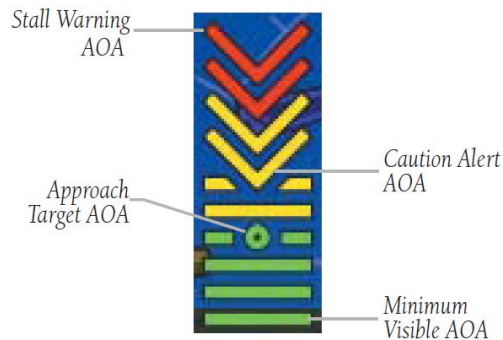
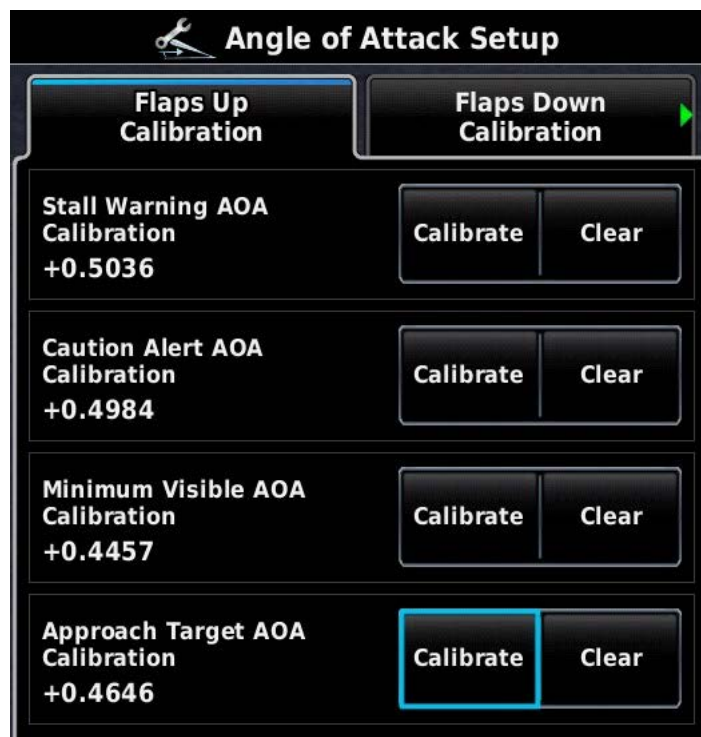

Figure 30-7 Angle of Attack (AOA) Display
Figure 30-9 Angle of Attack Setup Page
Installations that include a GAP 26 and which have AOA enabled require that an AOA calibration be performed to enable AOA functionality. The AOA calibration is used to find the four AOA settings shown in Figure 30-7. These calibrations must be done while in flight. The AOA Setup page (Figure 30-9) on PFD 1 is used for the AOA cal procedure, and is accessed in normal mode (requires that an AOA input is enabled on the LRU Configuration page, see Section 30.4.6, and Advanced User Setup is enabled on the System Options Page, see Section 30.4.4).
- The stall warning AOA calibration value (resultant from the calibration procedure) must be greater than the minimum visible AOA calibration value (see Figure 30-9).
- The caution alert AOA calibration value (resultant from the calibration procedure) must be greater than the minimum visible AOA calibration value and less than the stall warning AOA calibration value (see Figure 30-9).